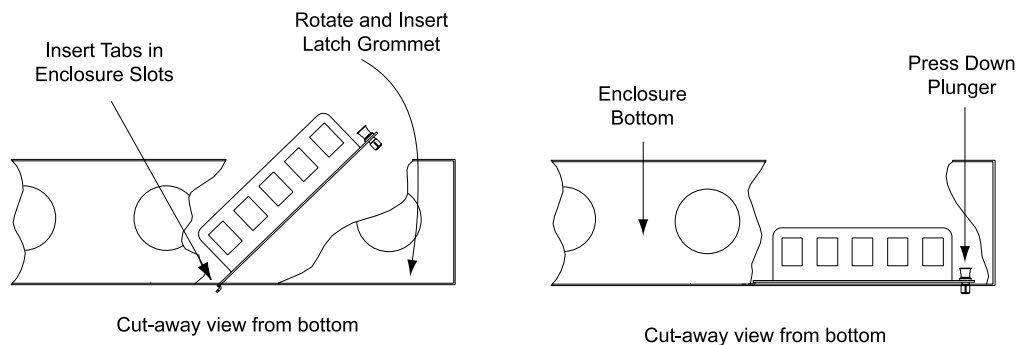

Figure 2
A. Mounting plate in enclosure - Refer to *Figure 2*.